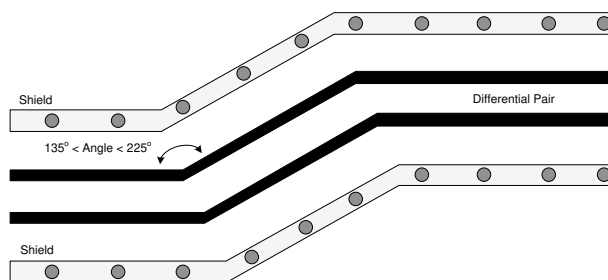

图 9-12. V-by-One Routing Example
- Ensure that the bend angles associated with the differential signal pairs are between 135° and 225° (See 图 9-12).